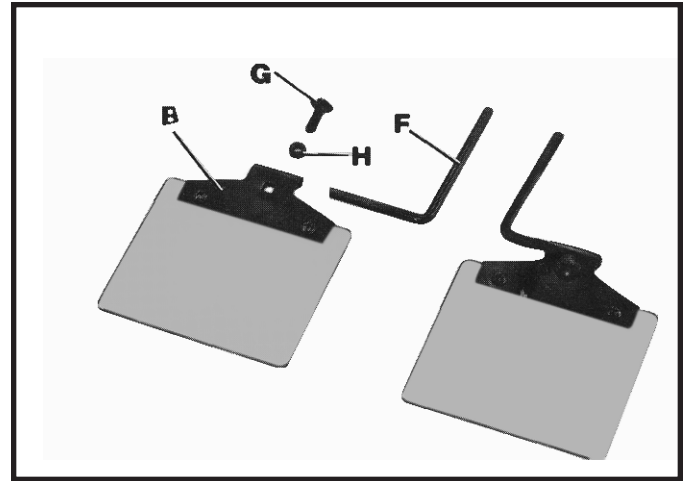

Fig. 5
2. Insert the short end of mounting rod (F) Fig. 5, into hole of frame (B) and fasten in place with 3/4 inch-long square necked round head screw (G) and nut (H).